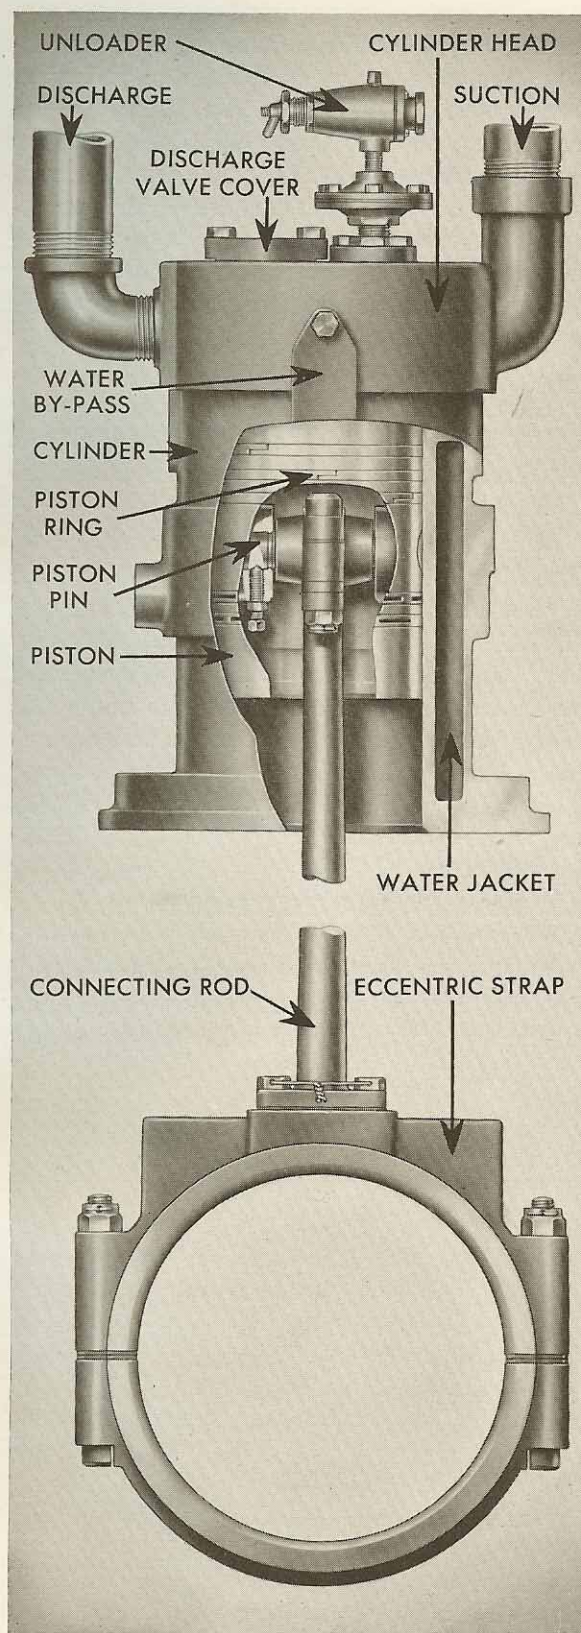

FIGURE 21-2
7. DISASSEMBLY OF ECCENTRIC STRAP, CONNECTING ROD AND PISTON: Remove the eccentric pit door on the manifold side of the engine. Cut the lock wire in the two cap screws which attach the connecting rod to the eccentric strap. Unscrew the cap screws and the rod and piston can be removed through the top of the cylinder. **DO NOT LOSE THE COMPRESSION SHIMS** that lie between the foot of the connecting rod and the eccentric strap. Figure 21-2 shows the various parts of this assembly. The eccentric strap has been turned $\frac{1}{4}$ turn for illustrative purposes.
8. REMOVAL OF THE PISTON PIN: Figure 21-2 shows that this pin is step cut. That is, the end which has the set screw in the